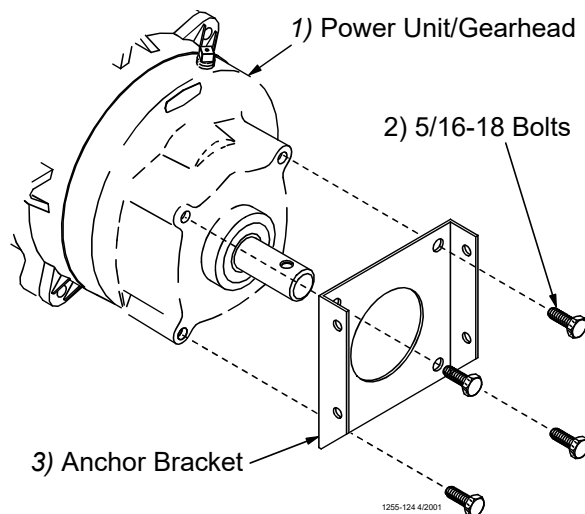

Figure 46. Assemble the Anchor Bracket to the Power Unit/Gearhead
3. Install the Anchor Bracket to the Power Unit/Gearhead, as shown in **Figure 46**, with the included 5/16-18 Bolts.